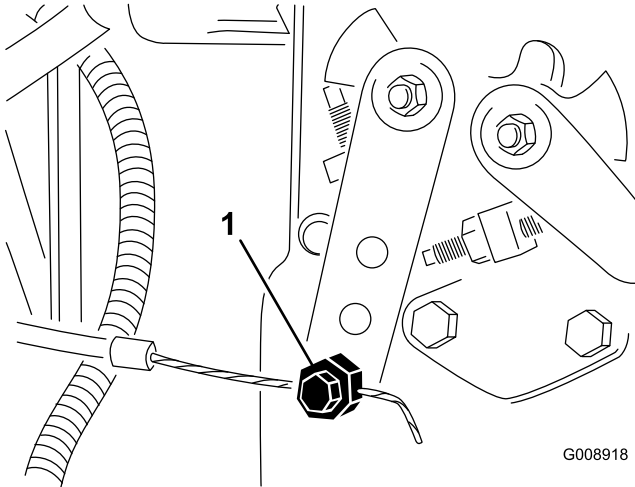

Figure 74
2. Loosen the throttle cable connector on the injection pump lever arm (Figure 74).